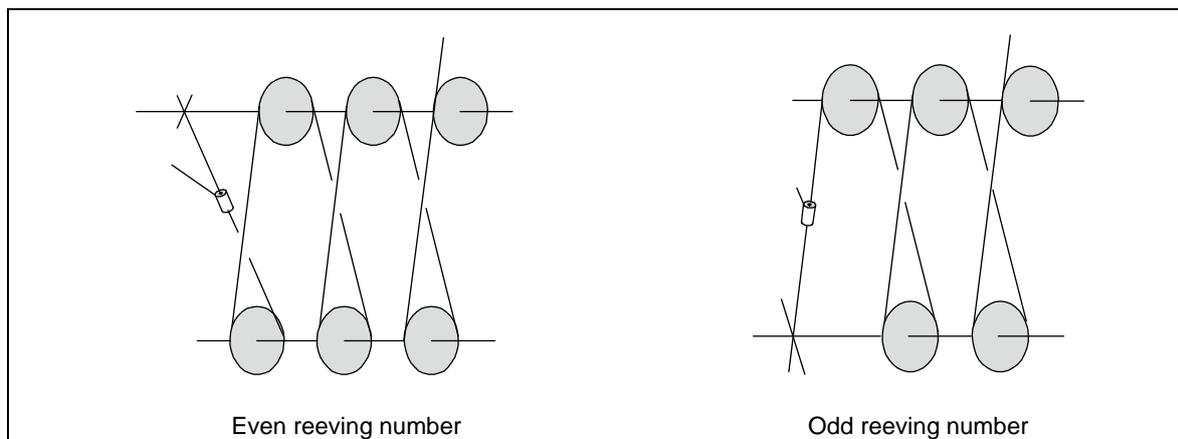

Figure 4-72 Location of hoisting limit switch weight
Change the wire rope reevings as follows (Refer to Figure 4-72):
- (1) You must change the location of the hoisting limit switch weight if you have a different number of wire rope reevings. Refer to Figure 4-72.
- (2) Put the wire rope on the winch spool smoothly and in sequence.